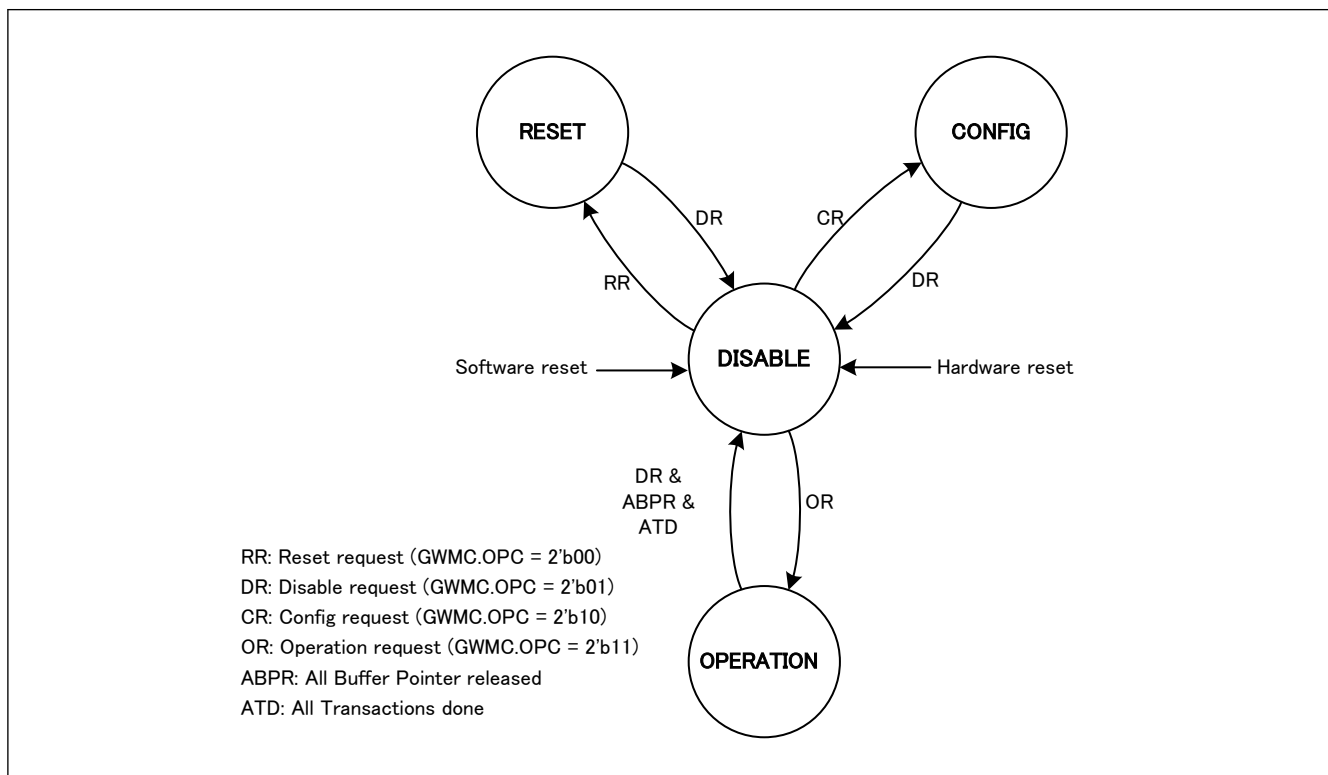

Figure 35.2 Operating mode transitions
Figure 35.2 shows the operating mode transitions.
- Software shall only trigger transitions shown to Figure 35.2.